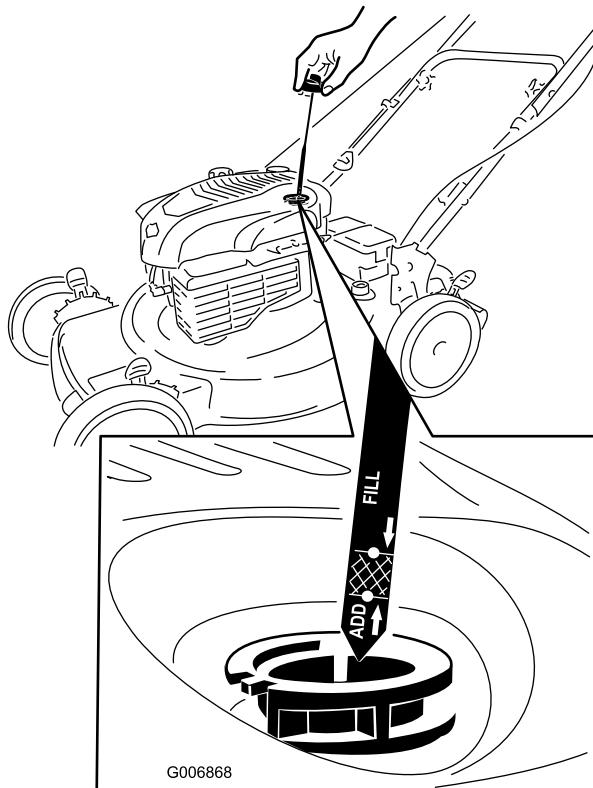

Figure 10
1. Remove the dipstick, wipe it clean, and fully install the dipstick (Figure 10).
2. Remove the dipstick and check the oil level (Figure 10). If the oil level is below the **Add** mark on the dipstick, **slowly** pour oil into the oil fill tube to raise the oil level to the **Full** mark on the dipstick. **Do not overfill.** (Max. fill: 20 oz. (0.59 l), type: SAE 30 detergent oil with an API service classification of SF, SG, SH, SJ, SL, or higher.)